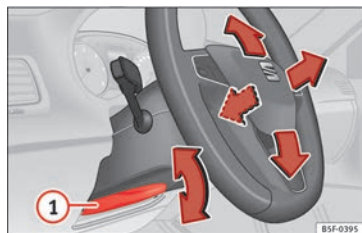

Fig. 19 Lever in the lower left side of the steering column.
• Adjusting the position of the steering wheel: Pull the » **Fig. 19** ① lever down, move the steering wheel to the desired position and lift the lever back up until it locks.